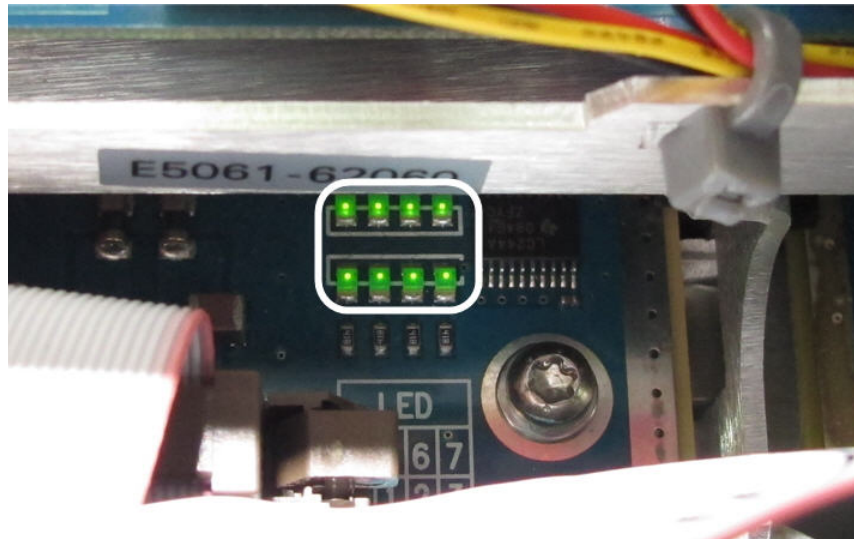

Figure 5 LEDs on DSP module
- LEDs on A51 DSP module as shown in Figure 5.